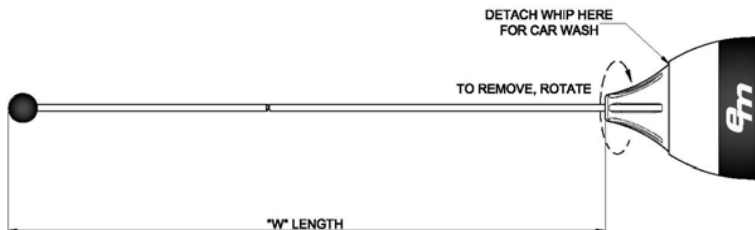

FIGURE 1.
5. Measure the cut length "W" as shown in Figure 1. The length includes ball tip.
Automatic Car Wash Feature - For optimal protection and extended reliability of the antenna and the NMO vehicle mount, remove the whip only from the antenna base (as shown in Figure 1) before entering automatic car wash. Before re-installation, wipe the stud and base dry with a clean cloth. Attach whip to the antenna adapter with firm finger tight grip.